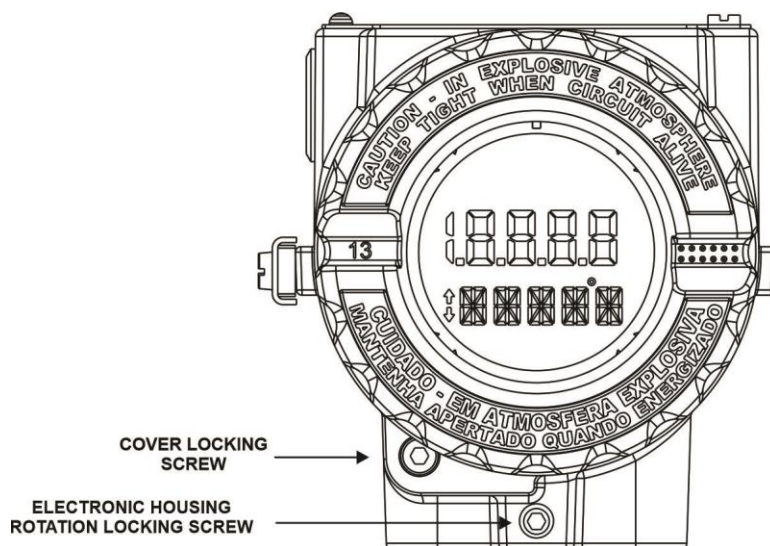

Figure 1.25– Electronic housing rotation locking screw
1. Loose the rotation locking screw. See figure 1.25